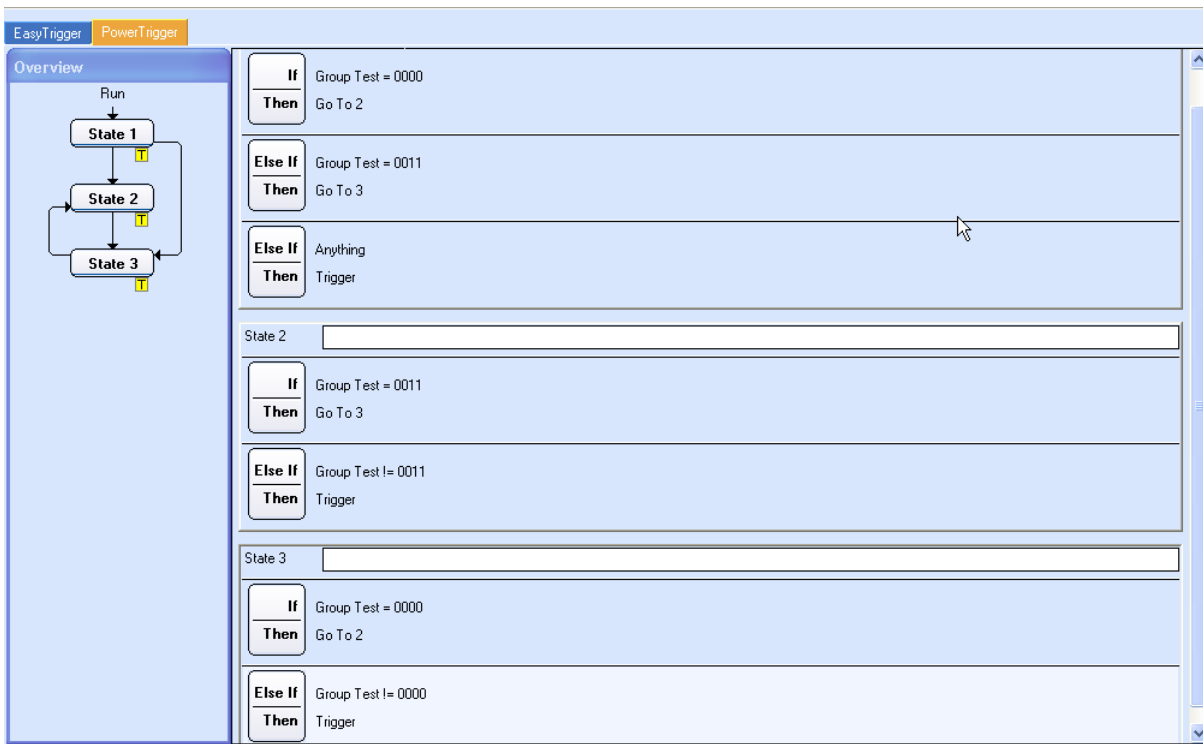

Figure 4: Set the trigger states
10. Open the LA Trigger window and select the Power Trigger tab. Set up three states as shown. (See Figure 4 on page 28.)